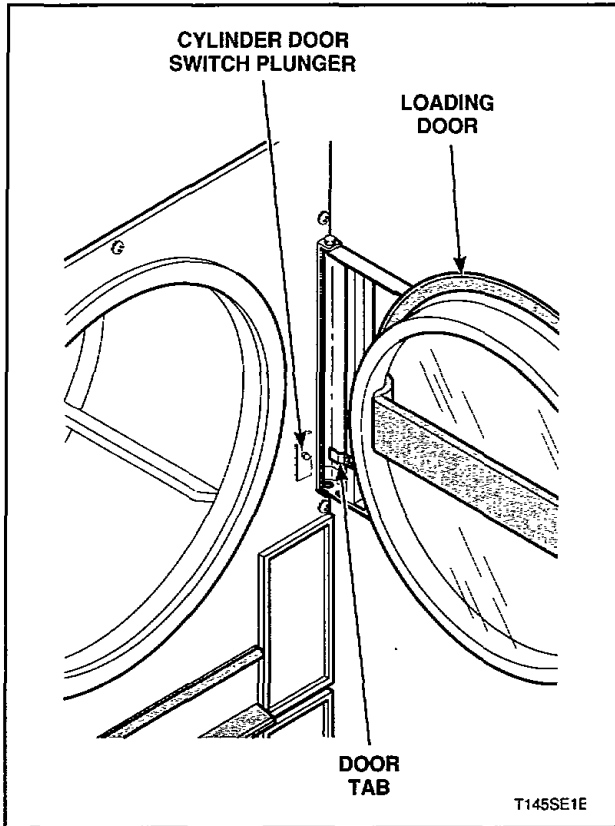

Figure 29
37. CYLINDER DOOR SWITCH (Figure 29)